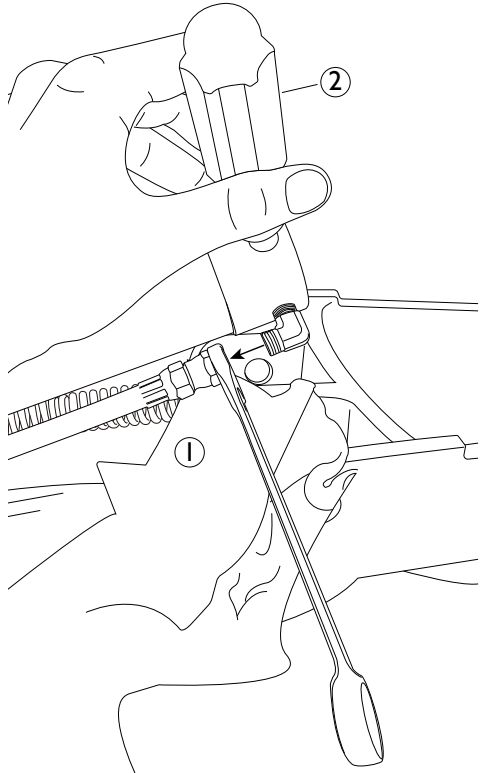

Figure 8. Detaching the hydraulic line from the upper cylinder
**4** Detach the hydraulic line from the upper cylinder (see Figure 8).
- Place a towel (item 1) down to catch any hydraulic fluid.
- It may be helpful to use a large screwdriver (item 2) to brace the cylinder.